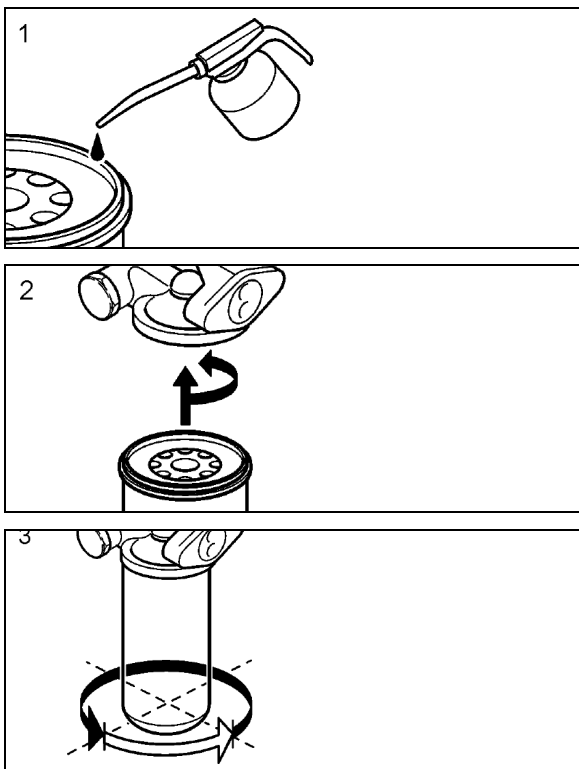

FIGURE 9: OIL FILTER REPLACEMENT
- Prefill the new oil filters with approved engine oil. Refer to Figure 9, also, lubricate the filter gaskets with engine oil (1). Hand tighten the oil filters until they contact the sealing surface of the oil filter housing (2). Manually tighten the oil filters an additional  $\frac{3}{4}$  to 1 full turn (3).